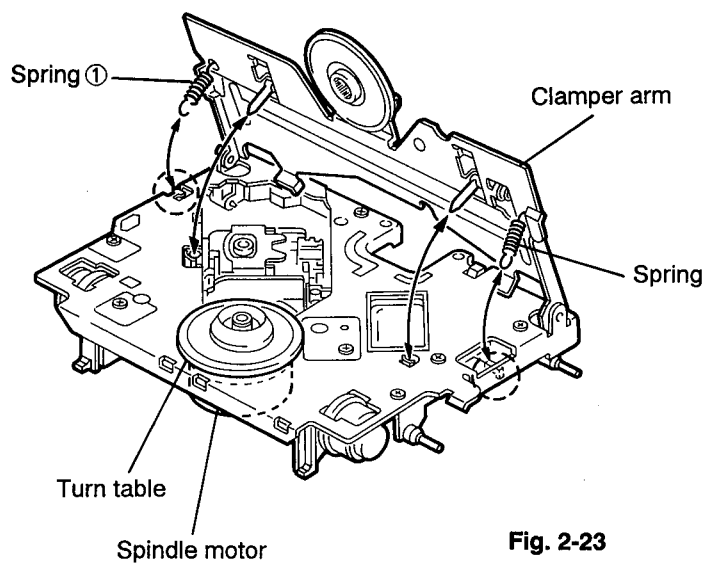

Fig. 2-23
1. After turning back the CD mechanism to initial position, remove the two springs ⑩ and ⑪ on both the right and left sides of the clamper arm (See Figs. 2-23 and 2-24).